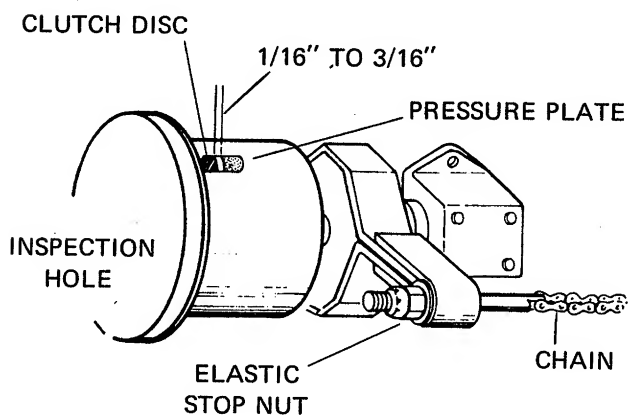

FIG. 12
5. If the distance is not between 1/16 and 3/16 of an inch, tighten the nut on the brake band through the hole in the upper left side of the rear frame until the proper clearance is obtained. (see Figs. 12 and 13)